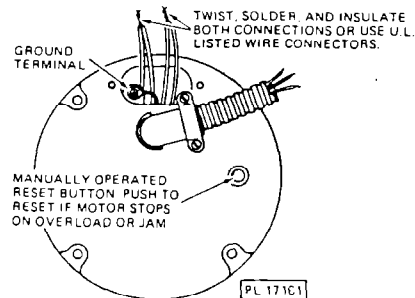

Fig. 3
5. Connect electrical power supply line to the two leads provided. Connect to ground (See Fig. 3 and grounding instructions below). Press wires into electrical access compartment and replace cover.
5. Run flexible conduit, or equivalent, from the control switch to the disposer motor leads located in the bearing bracket assembly. Insulate connections and connect unit to ground. (See Fig. 3 and grounding instructions below.)